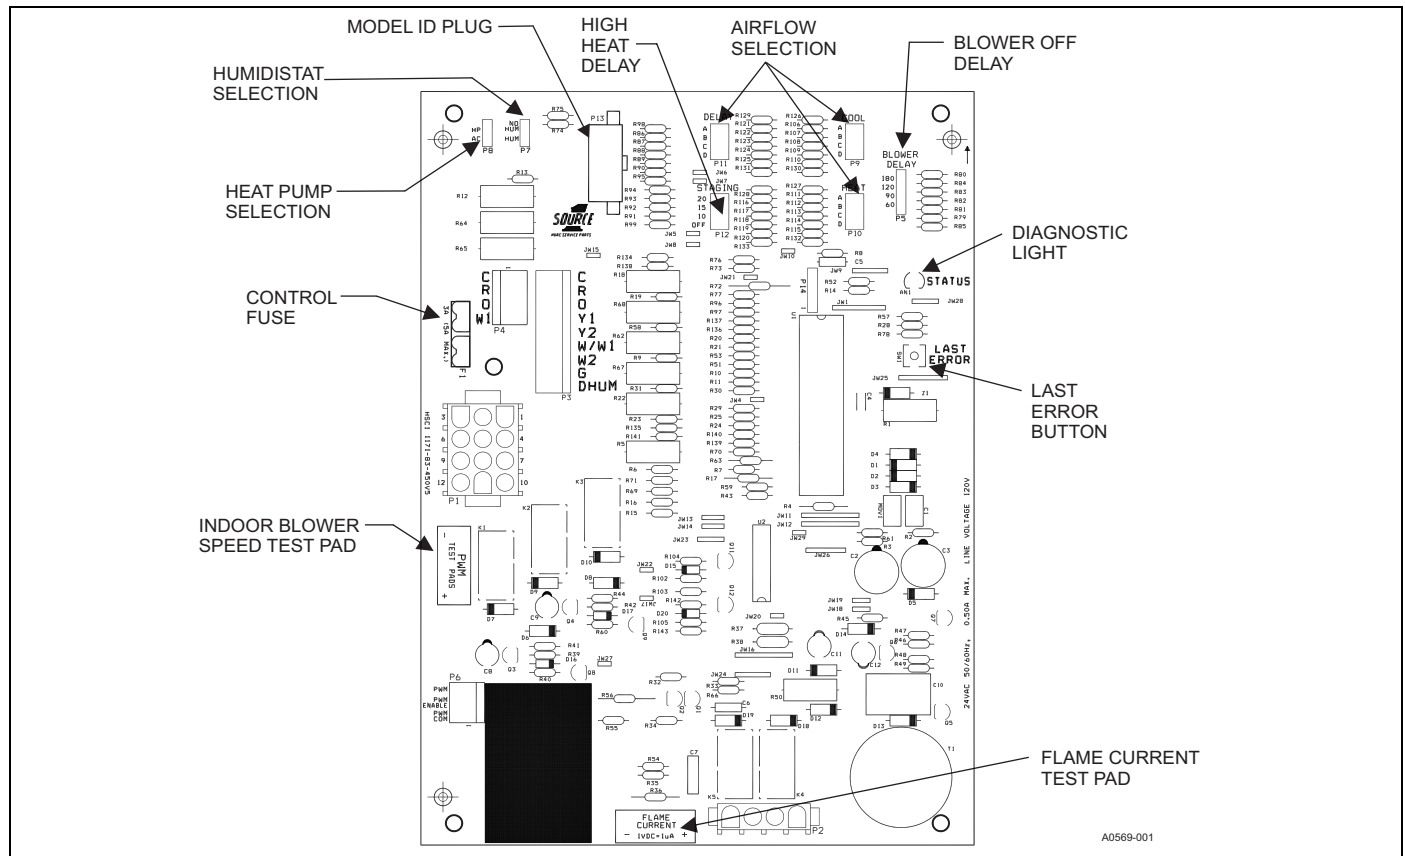

Figure 9: Control board
- Set the airflow selection jumpers to the appropriate settings based on external static pressures and heating temperature rise. See Figure 9.